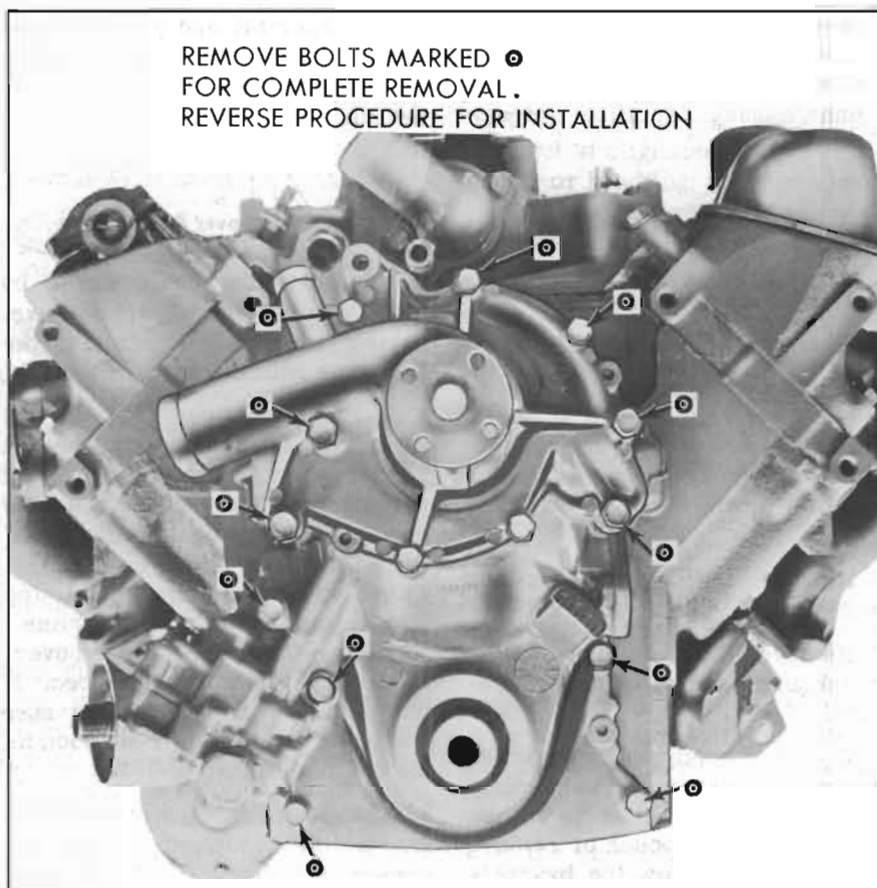

Figure 60-41—Timing Chain Cover Installation
4. Lube the bolt threads before installation and install them as shown in Figure 60-41.